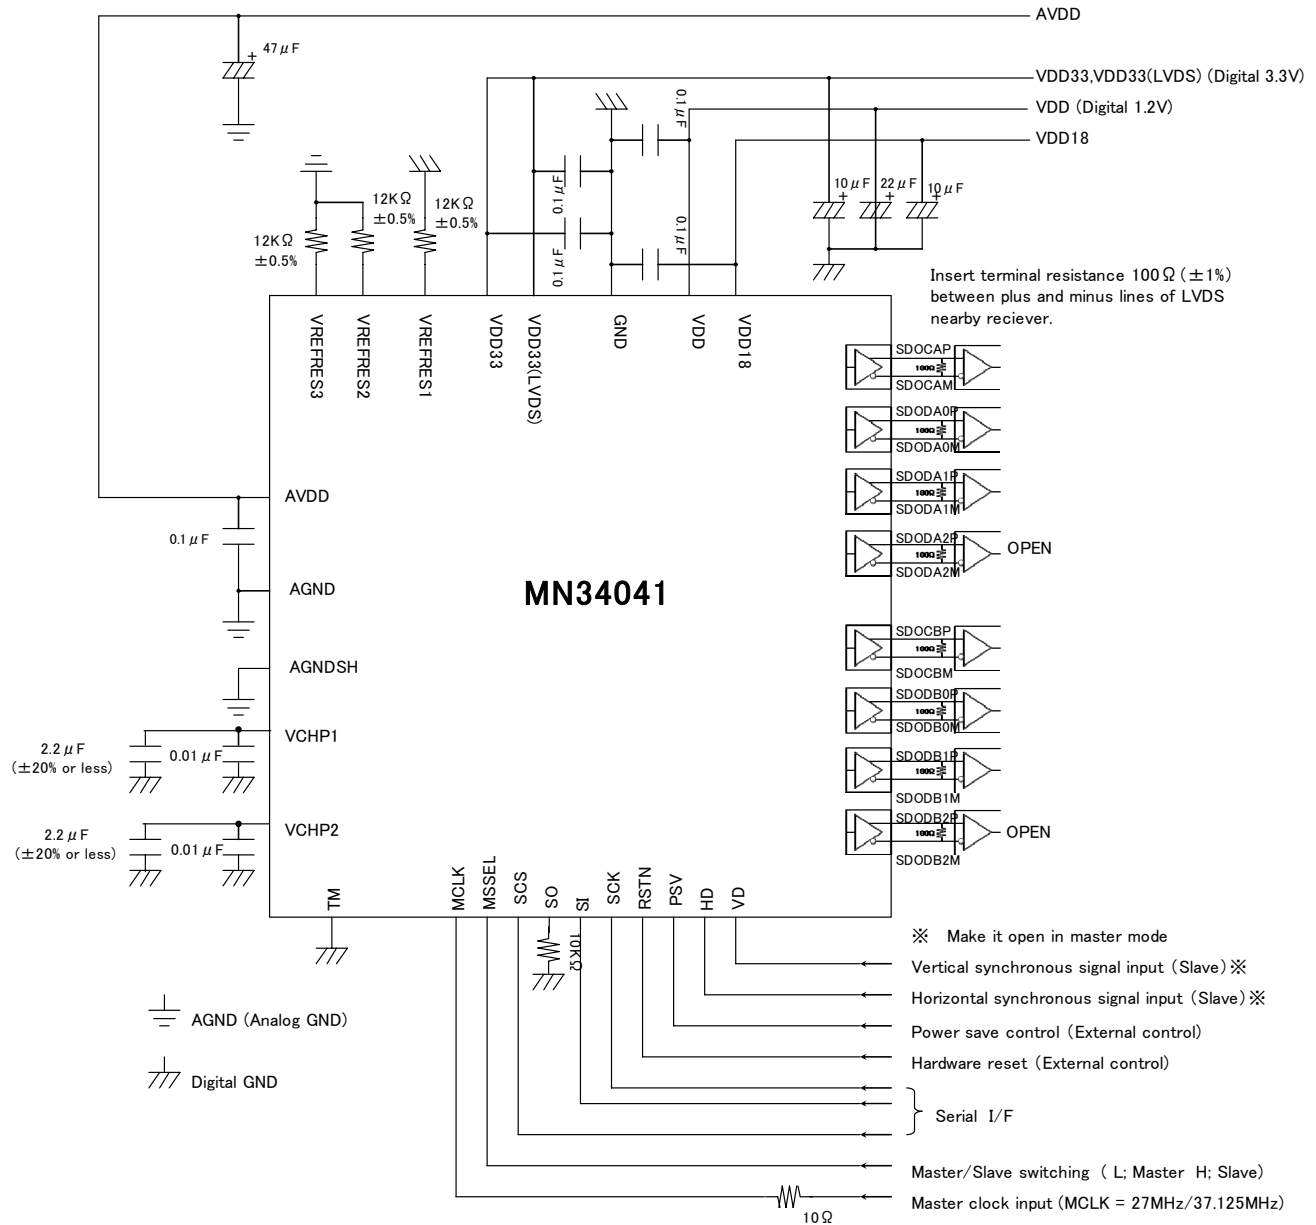

Figure 1.2.1 Reference circuit
*1) Connect resistive element ($12\text{ k}\Omega \pm 0.5\%$) between VREFRES 1, 2, 3 pin and GND shown as Figure 1.2.1.